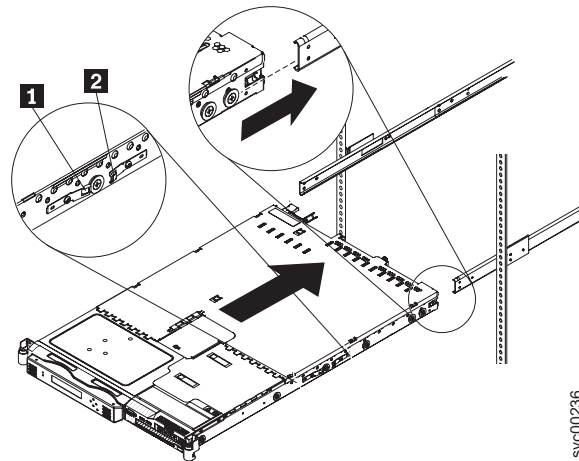

Figure 70. Aligning the SAN Volume Controller 2145-8G4 with the rack slides
2. Align the two rear wheels on the node with the opening in the slides and then push the node into the slides until the rear slide release latches (**2** in Figure 70 on page 349) click into place, locking the node in the slides.
4. Press the front slide release latches (**1** in Figure 70) on both sides of the node and move the node into the rack cabinet and back out to verify that the node moves freely.